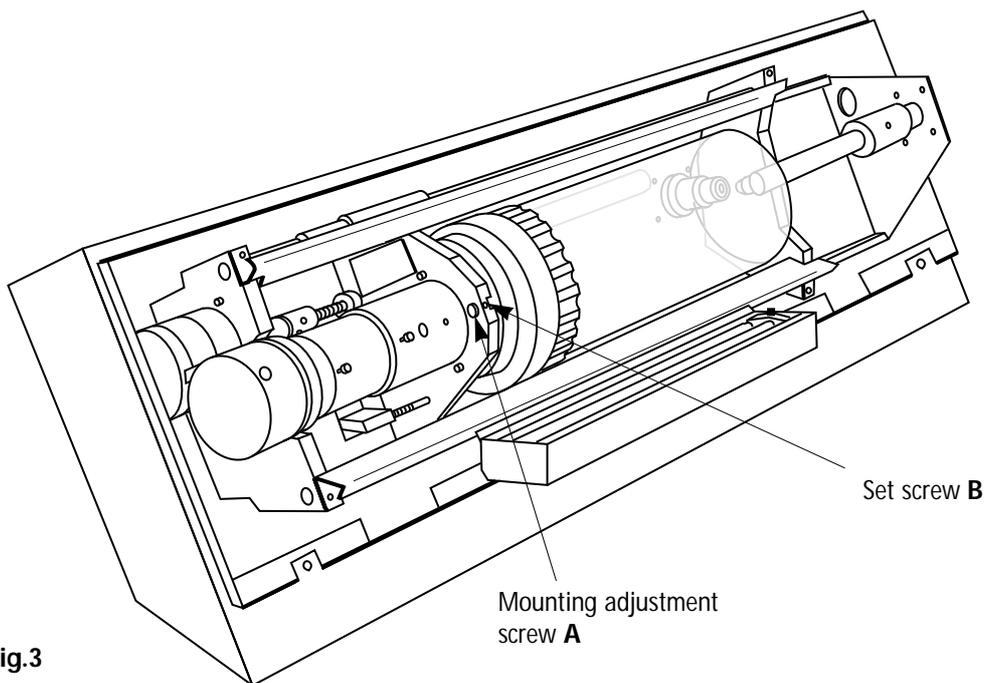

Fig. 3
- 13 • Remove the set screw B and adjust the mounting/adjustment allen screw A (fig. 3) until the overlap values in step 11 are the same as those in step 10.